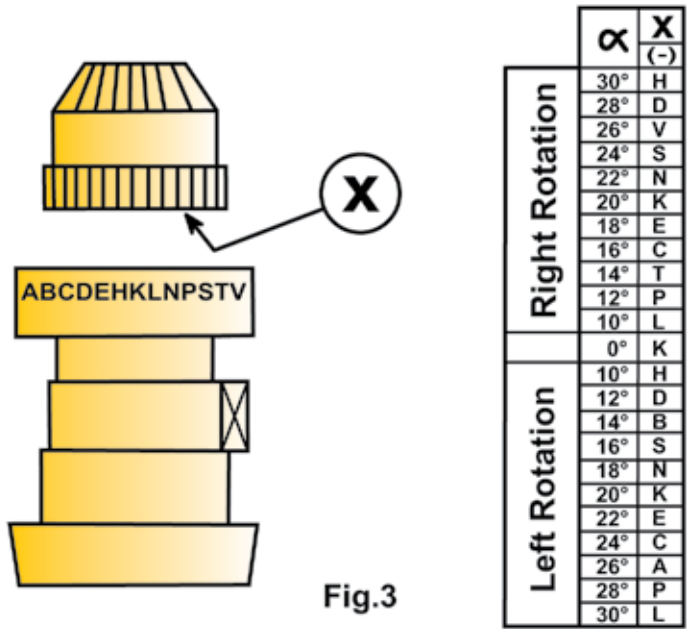

Fig.3
- C) On the bottom of the central gear (6) there is a groove on the bottom of one of the teeth, this represents the “X” on the chart in figure 3. Place the tooth with the groove into the corresponding lettered gear on the hub (1).